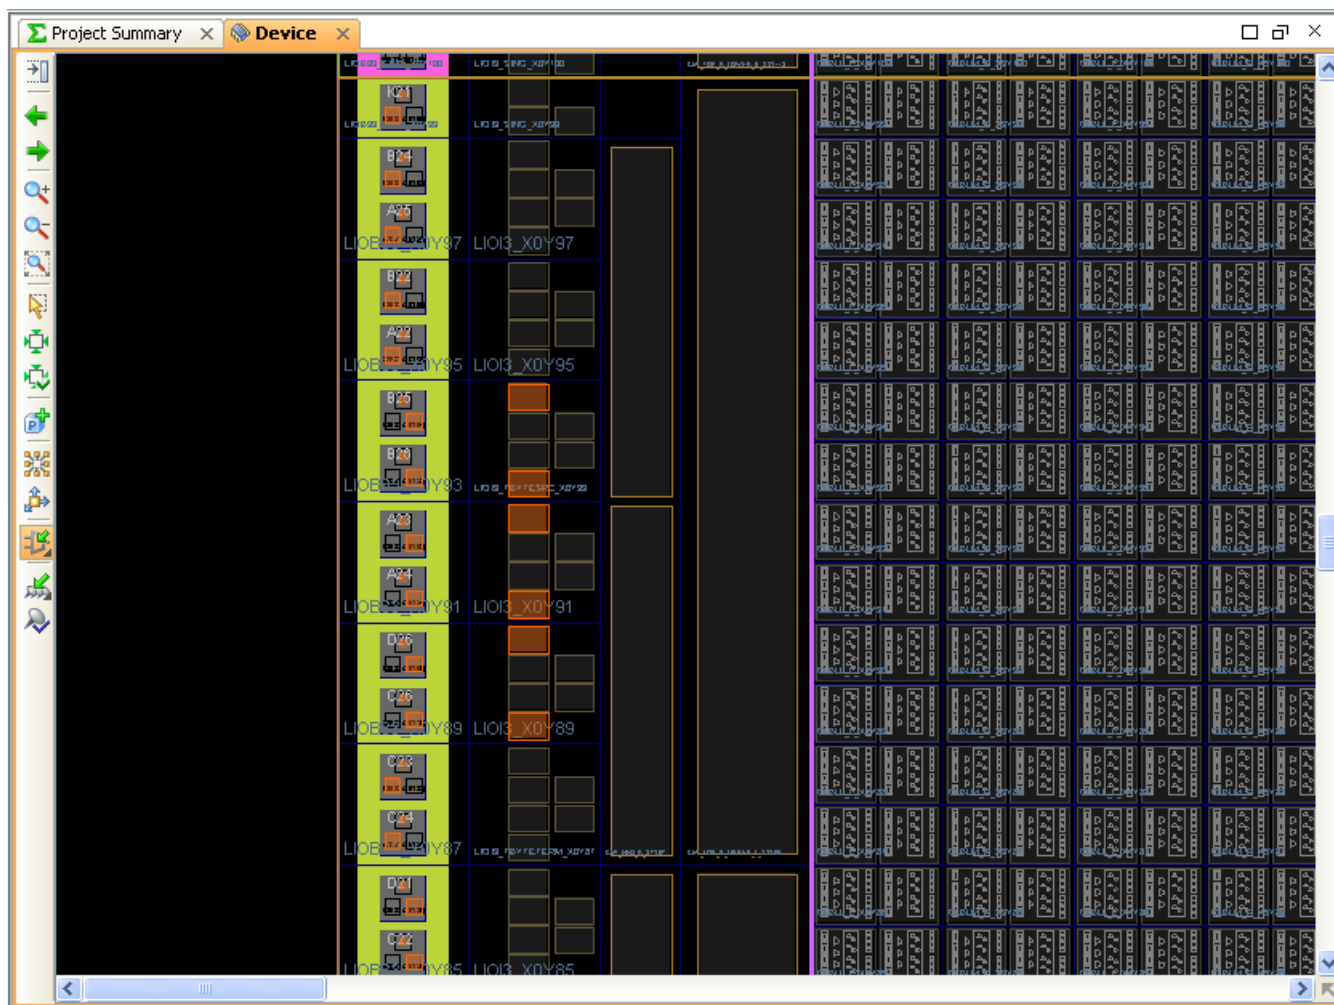

Figure 4-42: Device View
- The Device view displays the FPGA device resources including the FPGA logic, clock regions, I/O pads, BUFs, DCMs, Pblocks, instance locations, and net connectivity. The locations on the device where specific logic can be assigned are called *Sites*. Figure 4-42 shows a Device view.